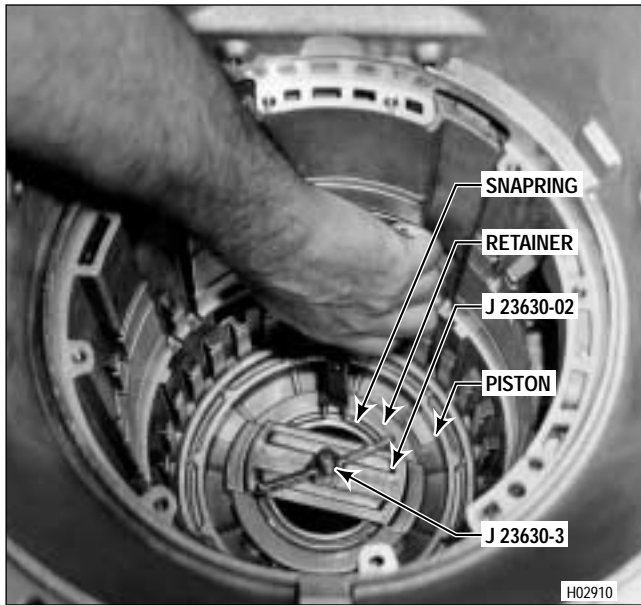

Figure 5-23. Removing First Clutch Spring Retainer Snapring
(2) Remove the ring gear and clutch pack as a unit from the main case. On earlier models, the rear ring gear is part of the rear carrier assembly and is removed with the planetary gear unit.
(3) Install first clutch spring compressor assembly J 23630-02 (Figure 5-23). Tighten nut J 23630-3 until the snapping is clear of the spring retainer.
- (4) Remove the snapring. Remove the compressor assembly.
- (5) Remove the spring retainer and the twenty-two piston return springs.
- (6) Remove the first clutch piston (Figure 5-23). Remove the two lip-type sealrings from the piston.